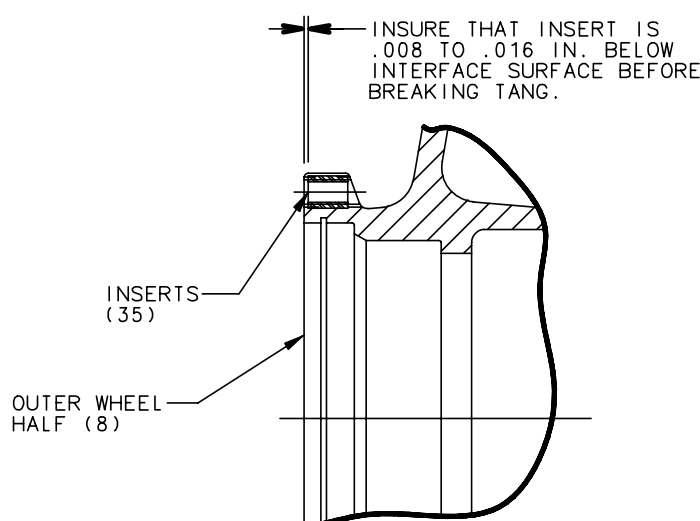

FIGURE 508
- (2) Use the hand inserting tools and install inserts into outer wheel half (8) as shown by Figure 508. Break off tang.